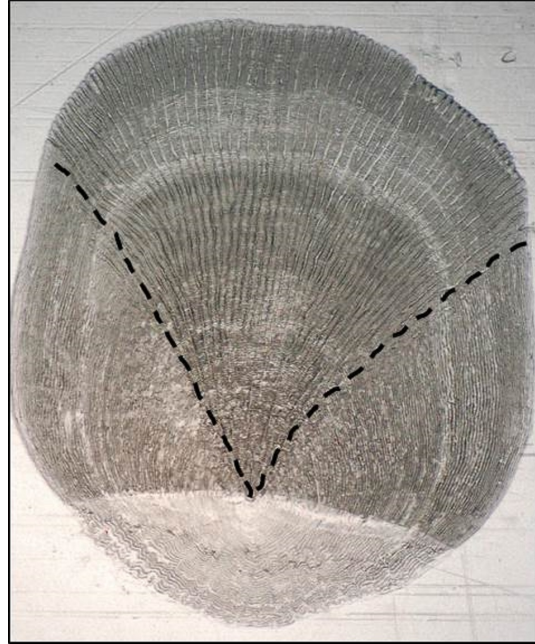

Figure 3: Summer flounder scale with a clear focus and V-shaped radii marked with black Sharpie.
2. The focus is a clear point, the radii form a true V-shape (Figure 3);